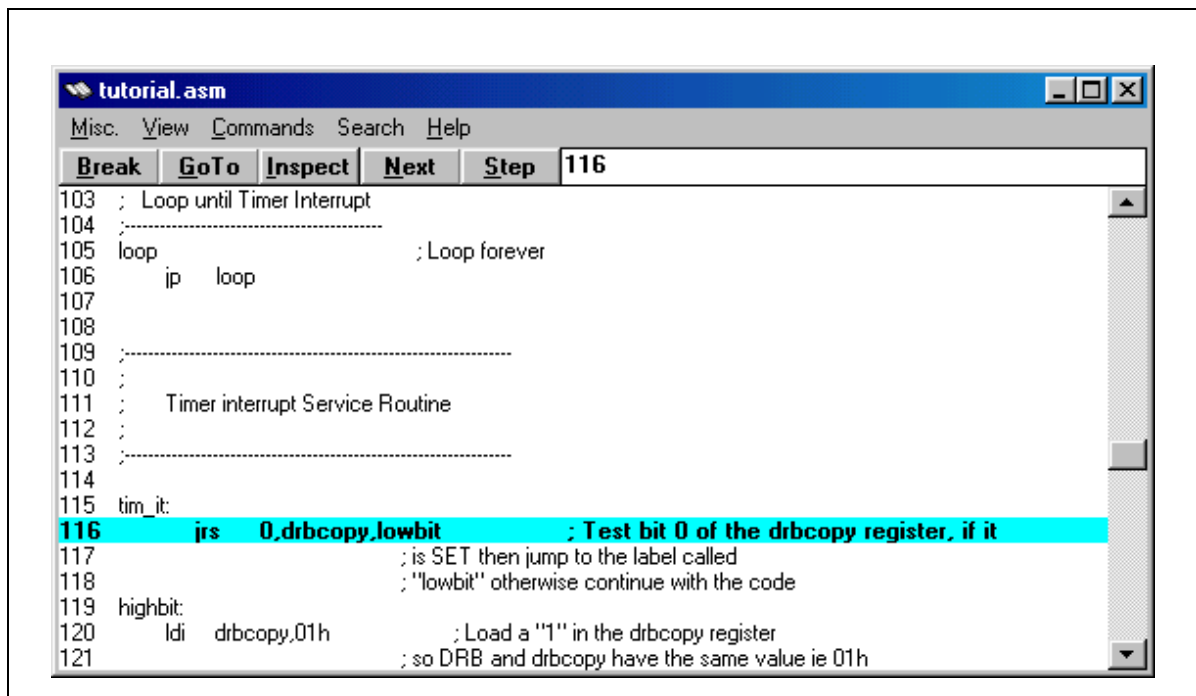

Figure 15: tutorial.asm window showing set breakpoint
- 13 Click the **Break** button - this causes the instruction to be displayed in bold (see *Figure 15*) which means a breakpoint has been set at this instruction.